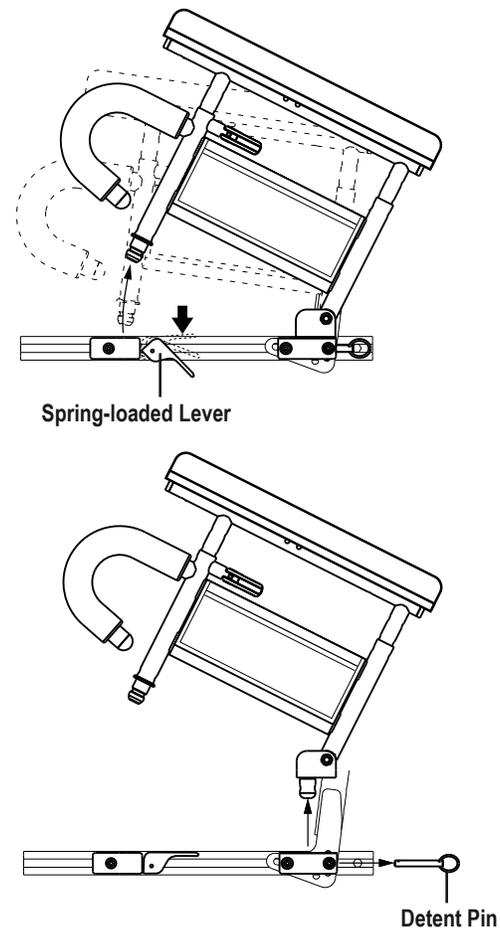

Figure 8. Two Post Armrest Removal and Installation
The height adjustment range for the Two Post Armrest is 9–13 in. (22.86–33.02 cm) in 1-in. (2.54-cm) increments. This range is measured from the top of the seat rail to the top of the armpad. You can also flip the armrests or remove them for transfer. **See figure 8.**
1. Push the spring-loaded lever downward and pull up on the front of the armrest. **See figure 8.**
2. Remove the detent pin from the back of the seat. **See figure 8.**
1. Set the rear of the armrest into the rear seat receiver and install the detent pin. **See figure 8.**